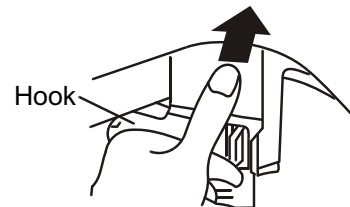

Figure 2
- (1). Install the corrugation pipe.
- (2). Insert the mounting plate at the bottom of the filter into original position.
- (3). Hang up the hook at the left upper side.
- (4). Push the upper part in as indicated in Figure 2.